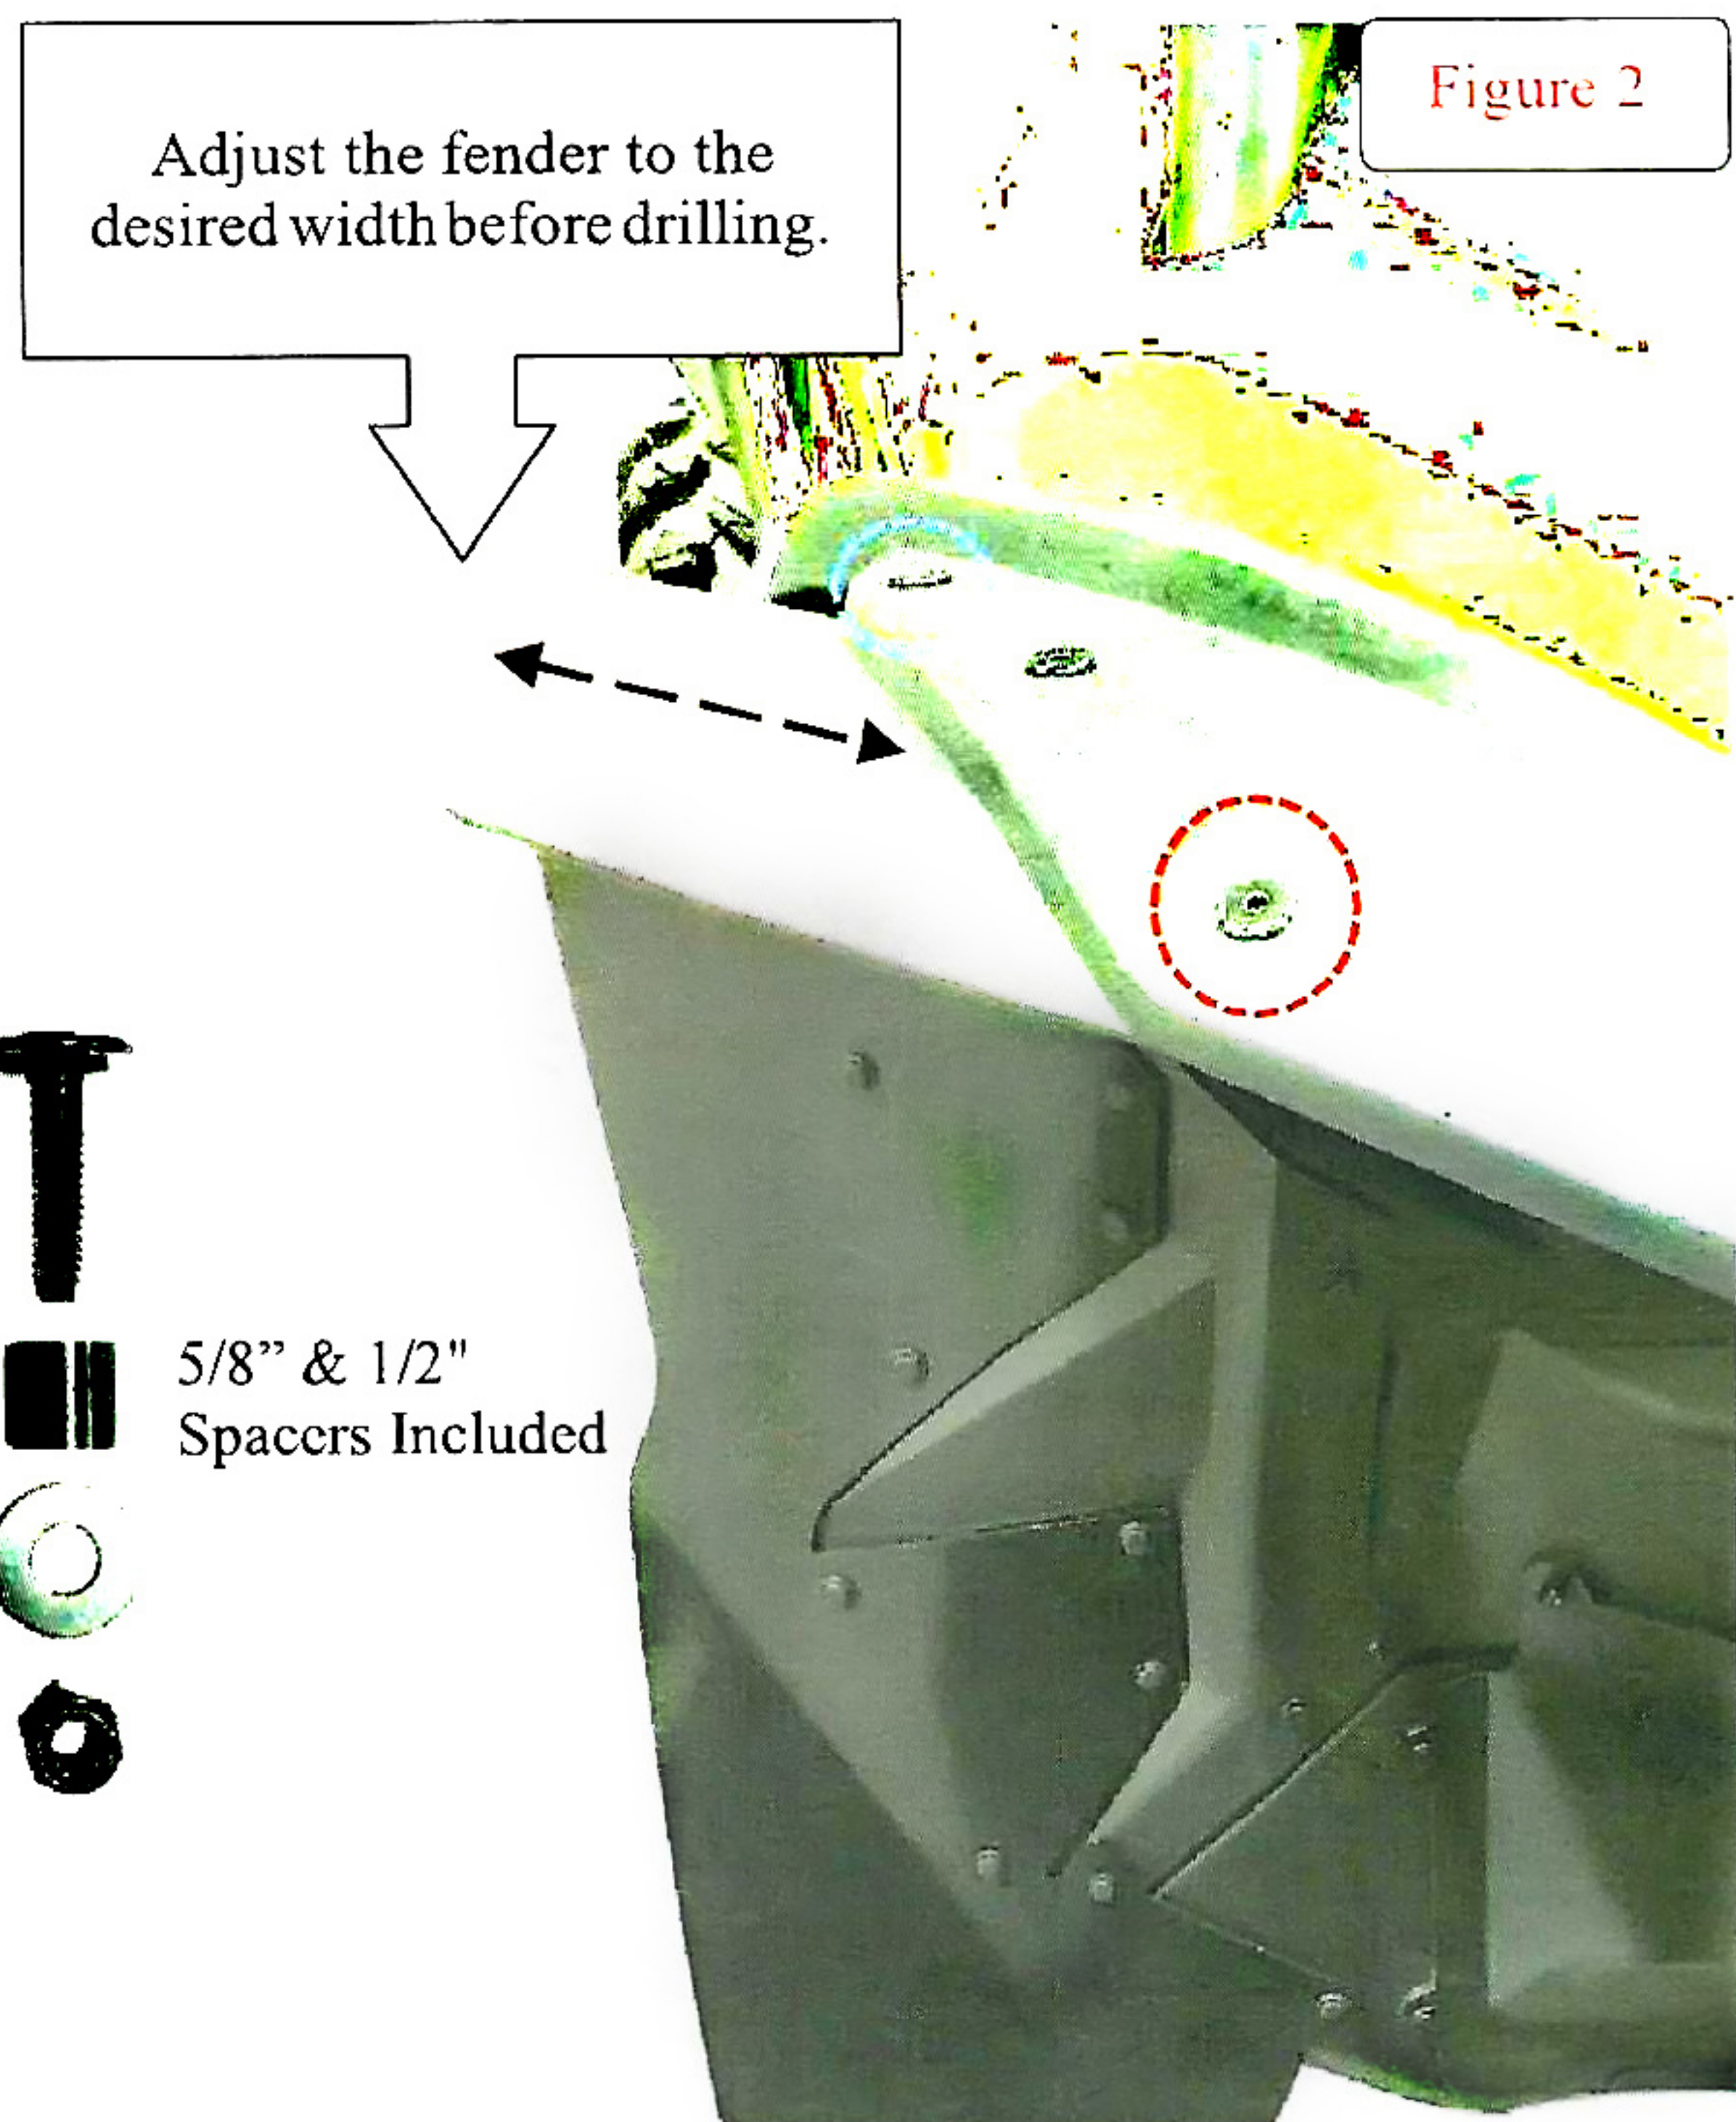

Figure 2
- 3) Place the upper section of the XL front fender extension against the inside of the factory front fender. This section of the front extension is slightly adjustable and can be installed in or out depending on your preference (See **Figure 2**).